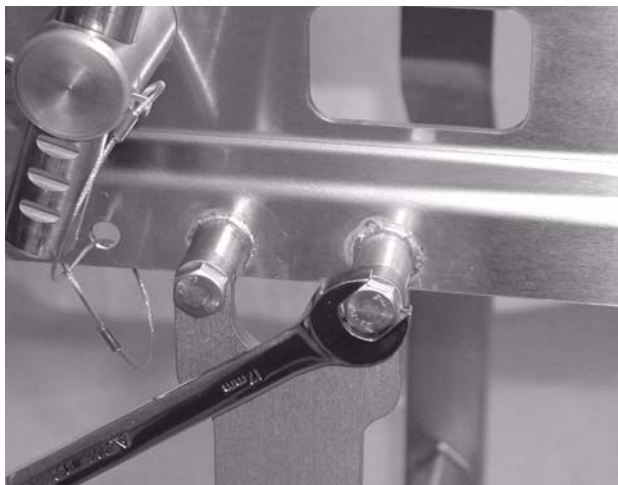

Figure 10
2. Attach the stands to the frame (**Figure 10**).